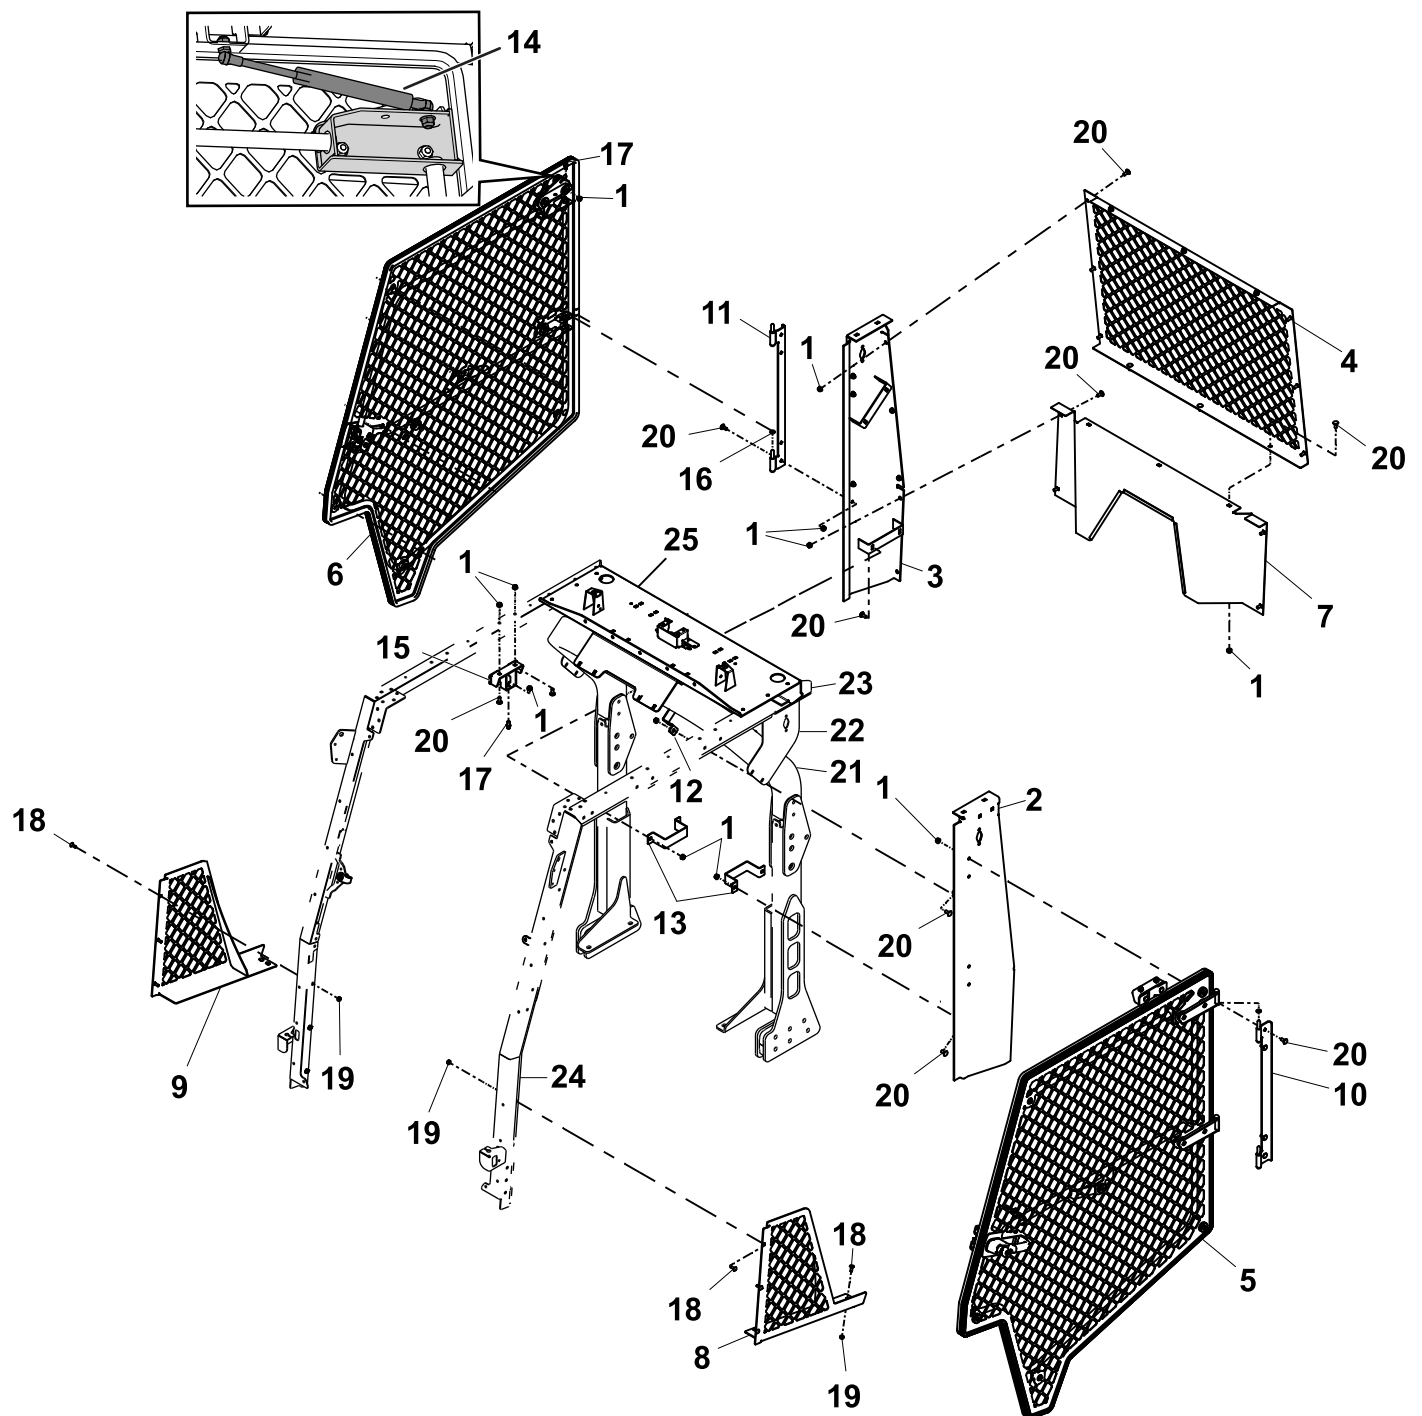

Figure 2
6. If a 2 Post ROPS extension was installed on the machine, remove the side panels that are used to mount the ROPS post lights (Figure 2).
Refer to Figure 2 as you perform the following steps.